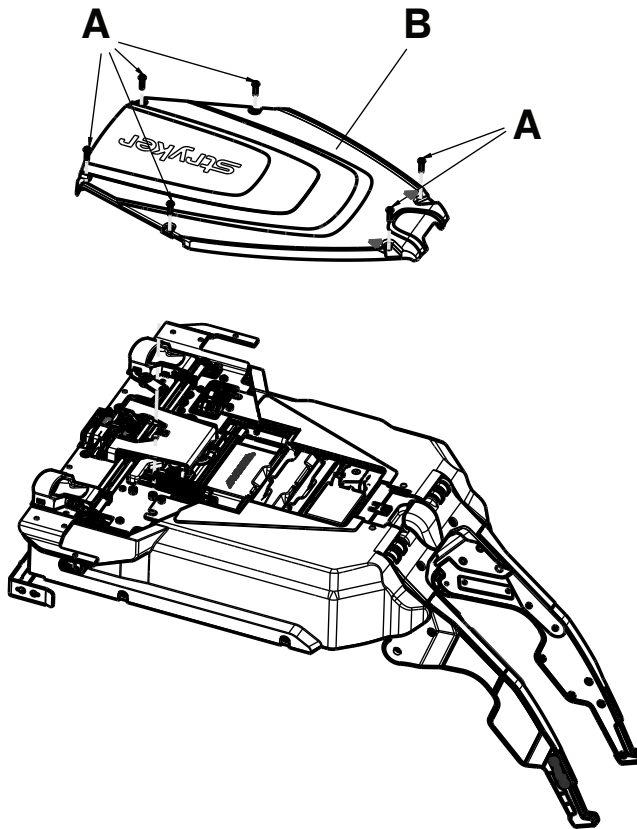

Figure 11 – Trolley top cover
1. Using a T25 Torx driver, remove the six screws (A) that secure the trolley top cover (B) (Figure 11). Save the screws.